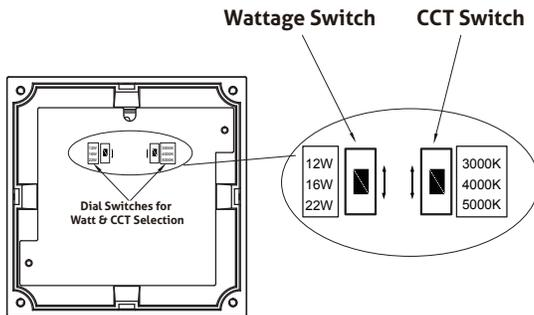

Fig 9
1. DIP switches are located inside the fixture. (see **Fig. 9**). To access, use the included allen wrench to loosen screws on fixture head, then lift up.